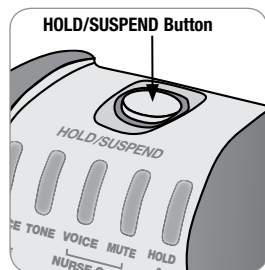
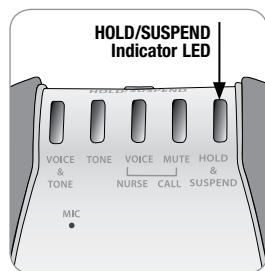

Fig. 18
Fig. 18a
1. Press **HOLD/SUSPEND** button on the top of alarm (Fig. 18) for 3 seconds. The **HOLD/SUSPEND LED** will begin flashing RED at ½-second intervals if the alarm is in **SUSPEND** mode (Fig. 18a). The green LED indicating mode will continue to flash, but the alarm is not monitoring.